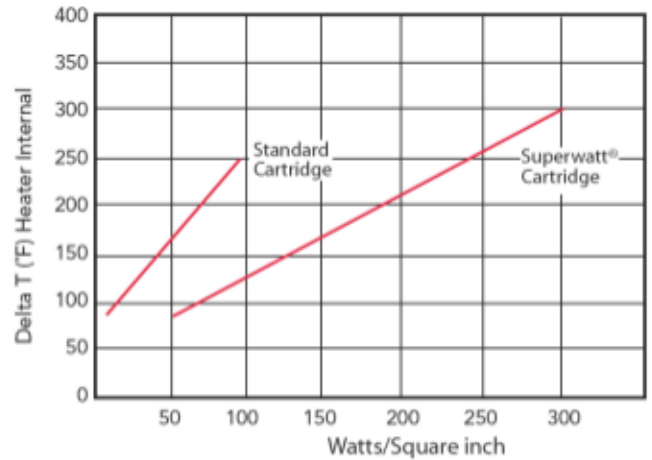

Figure 7: Internal temperature differential for standard and superwatt cartridge heaters as a function of watt density. Source: Backer Hotwatt
5. From figure 7 determine the heater internal Delta T (Temperature drop) 5. _____